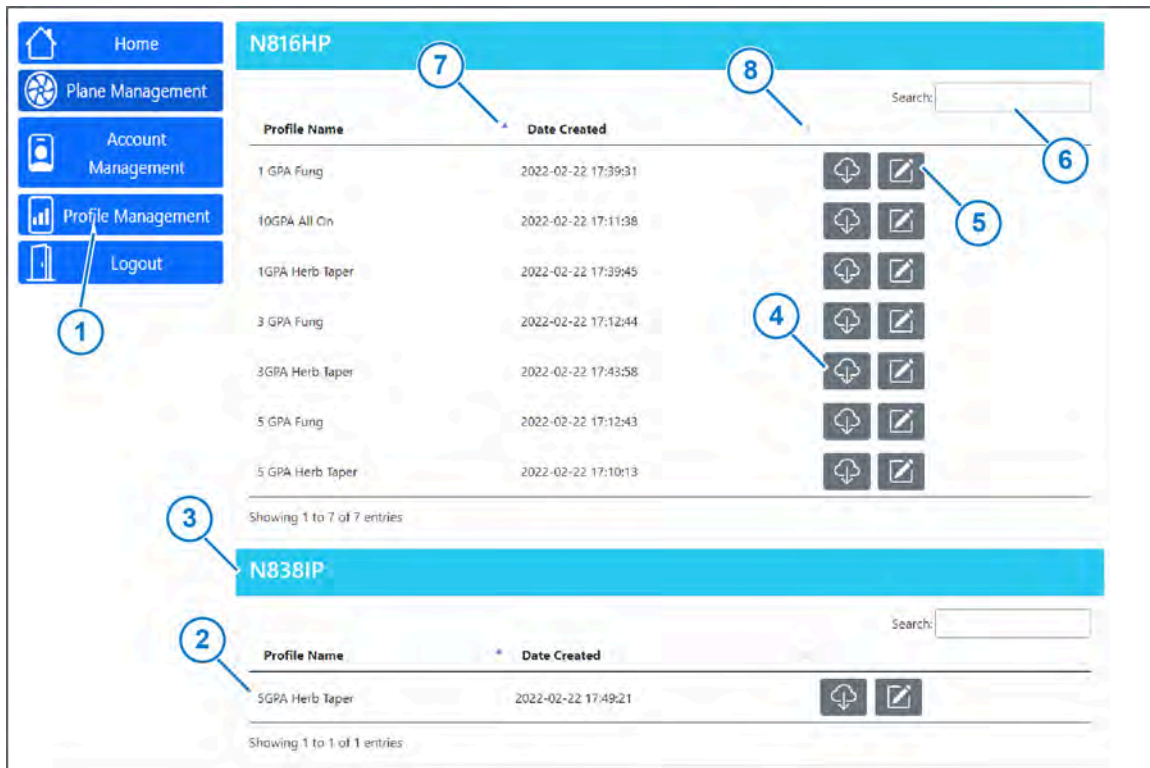

Figure 20: Profile Management
1. Select **Profile Management** (Figure 20, Item 1) from the sidebar.
2. The profiles (Figure 20, Item 2) connected to each plane will show below the plane name (Figure 20, Item 3).
3. To download a profile, select the **download** icon (Figure 20, Item 4).
4. To edit a profile, select the **edit** icon (Figure 20, Item 5).
5. To search for a specific profile, select the box (Figure 20, Item 6) next to **Search:**.
6. Select the arrow (Figure 20, Item 7) next to **Profile Name** to organize the profiles alphabetically.
7. Select the arrow (Figure 20, Item 8) next to **Date Created** to organize the profiles by date.